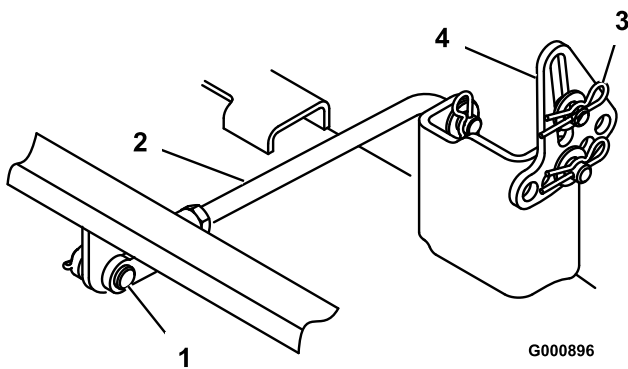

Figure 48
6. Remove the hairpin cotter and clevis pin from the rear trunnion rod (Figure 48) on each side of the mower.
7. Remove the hairpin cotter and washer at the mower leveling brackets (Figure 48) on each side of the mower. Note which hole the leveling bracket is mounted in for future installation. Slide the brackets off of the mounting pin.
6. Attach the rear trunnion rod to the tractor with the clevis pin and hairpin cotter (Figure 48) on each side of the mower.
7. Slide the leveling brackets onto the mounting pins and secure them with the washers and hairpin cotters (Figure 48).